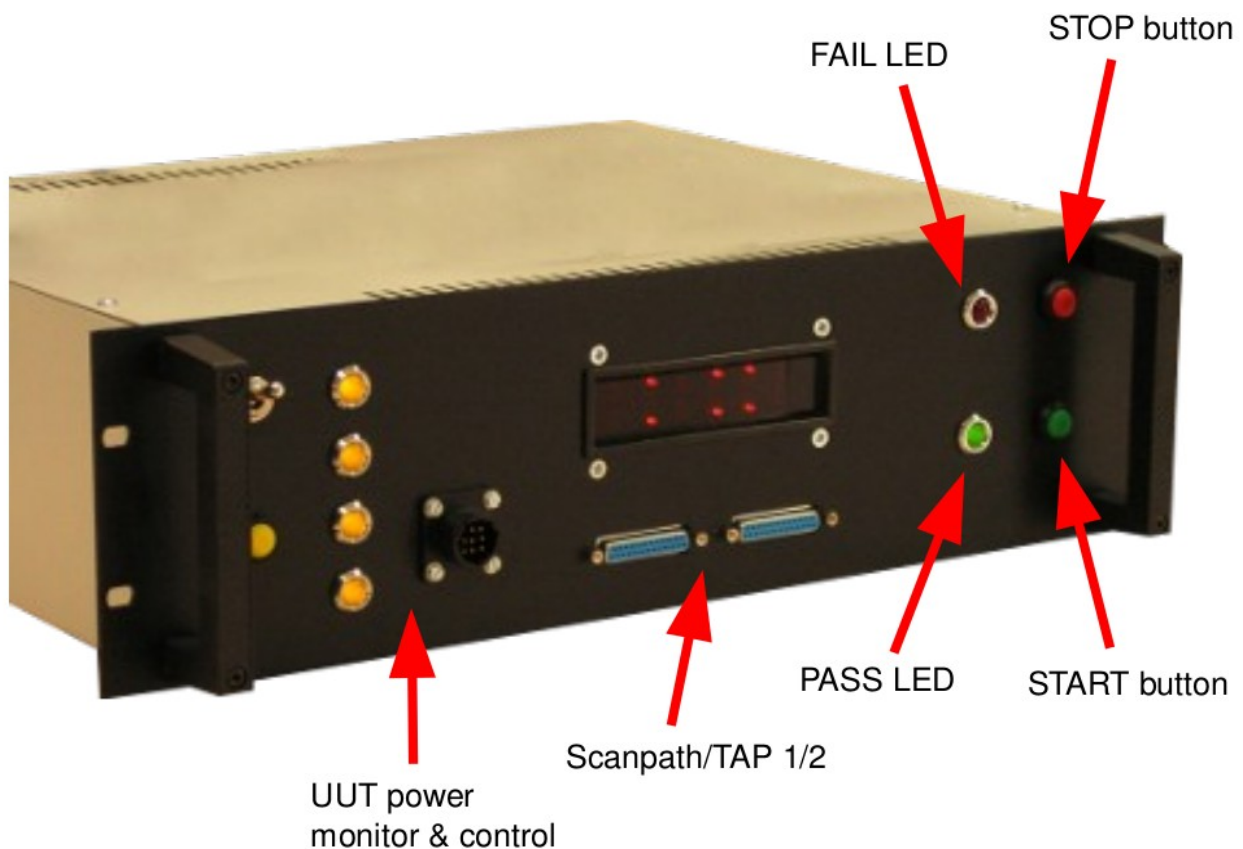

figure 8: BSC front panel
- ➔ The BSC can operate autonomously from the PC. For fast pre-testing of UUTs the operator activity is reduced to pushing front panel buttons START and STOP. Two LEDs indicate PASS or FAIL (see figure 8 page 13 and section 9 Executing Tests (run) on page 32).
The BSC comes in a robust 19 inch housing with rugged connectors for fast and safe UUT change (figure 8). It can operate autonomously from the PC. For fast pre-testing of UUTs the operator activity this can be reduced to just pushing front panel buttons START and STOP. Two LEDs indicate PASS or FAIL.